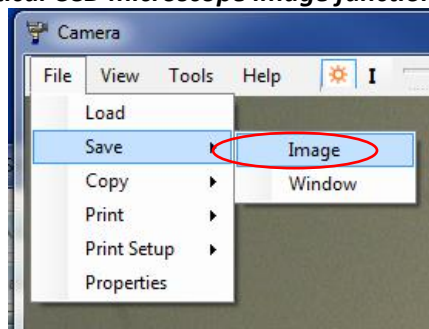

Figure 317: main menu of the CCD window showing how to capture the image displayed by the CCD camera.
**Save an image:** You can capture an image of the sample via the CCD via the “Camera” menu: File→Save→Image in the “Optical Image” window (Figure 317).